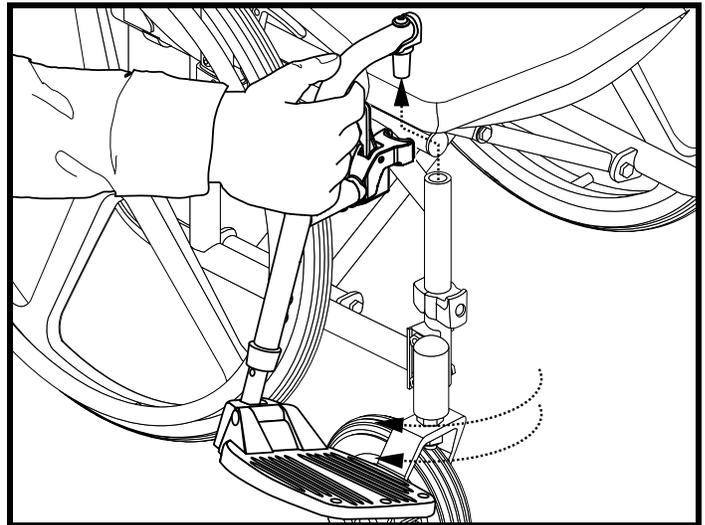

Figure 22. SFR Removal
2. Pull the SFR up. See figure 22.